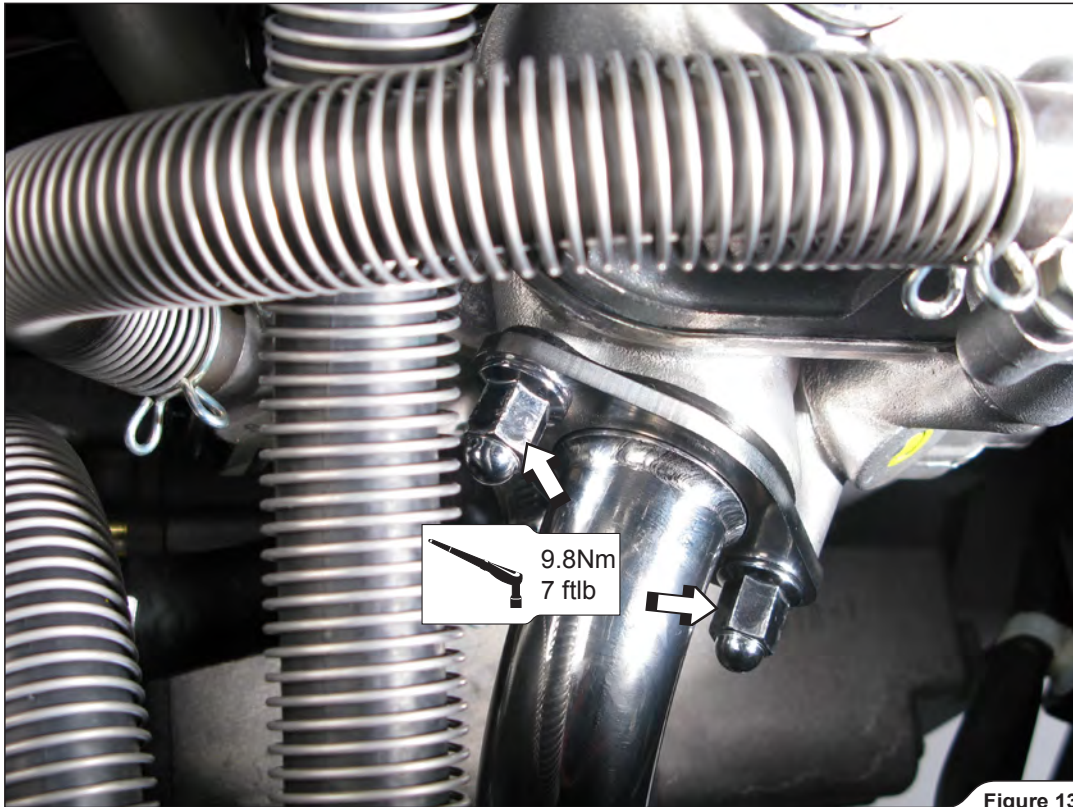

Figure 13
7. Tighten the header's flange nuts to a specified torque (**Figure 13**).